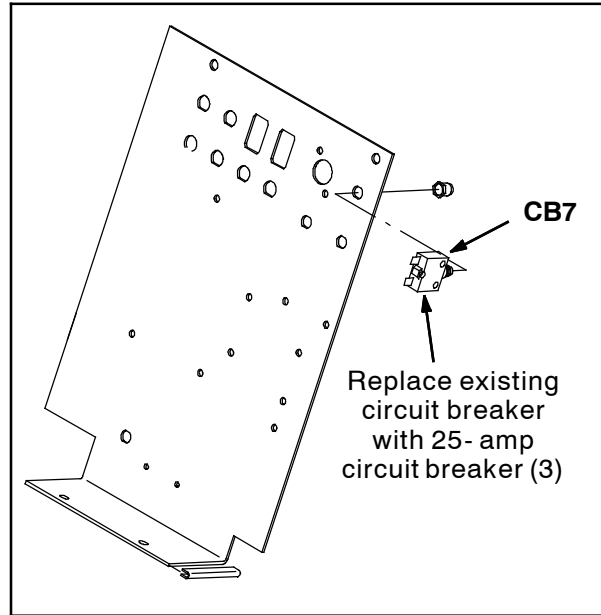

FIG. 3
3. Remove the existing circuit breaker from CB7 on the electrical panel. (Fig. 3)
4. Install the 25- Amp circuit breaker into electrical panel location CB7. (Fig. 3)